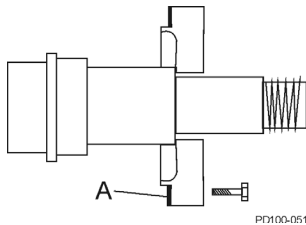

Figure 42 - Remove Sealant from Retainer
4. Remove the silicone sealant (Figure 42, item A) from the bearing retainer and gear case.